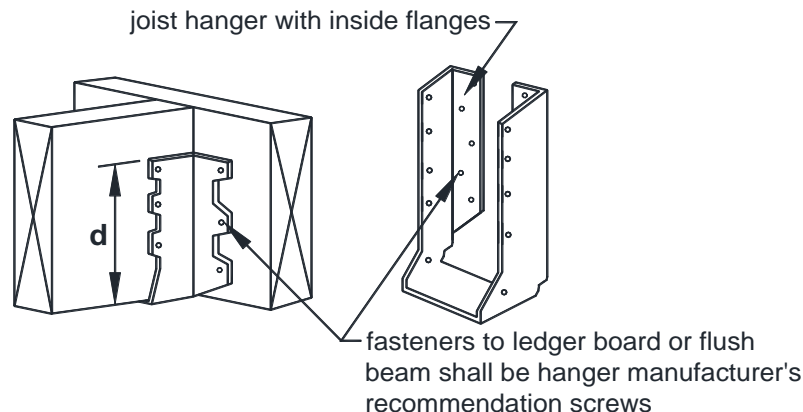

FIGURE 11: JOIST HANGERS
- Joist hanger depth, **d**, as shown in FIGURE 11, shall be greater than or equal to 60 percent of the joist depth.